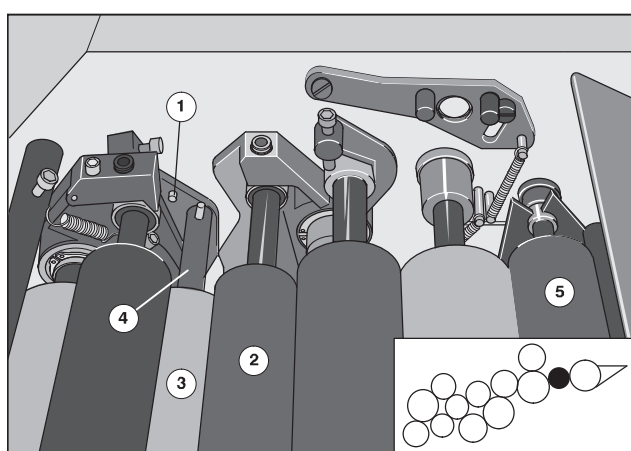

Fig. 51 Inserting the ink vibrator
1. Place the ink vibrator (Fig. 51/5) with the brass bearings in the retainers on D.S. and O.S.
1. Pull the 2nd ink transfer roller (Fig. 51/2) against slight resistance from the plate cylinder into both bearings.
1. Set the 3rd ink transfer roller (Fig. 51/3) against the 2nd ink transfer roller and press the roller shaft (Fig. 51/4) behind the pins on D.S. (Fig. 51/1) and O.S.